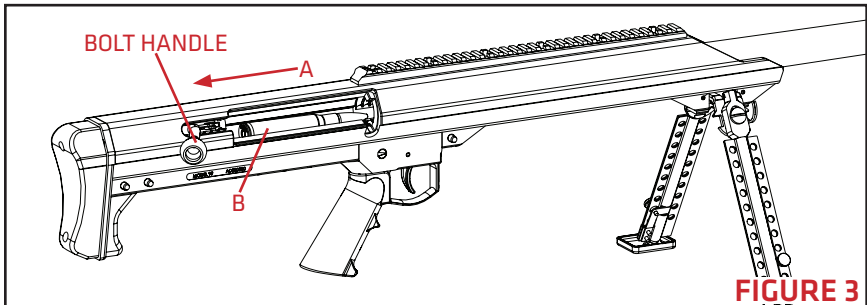

FIGURE 3
2. With the rifle pointed in a safe direction, lift the bolt handle and draw it to the rear (**FIGURE 3-A**). Insert a cartridge into the ejection port (**FIGURE 3-B**).